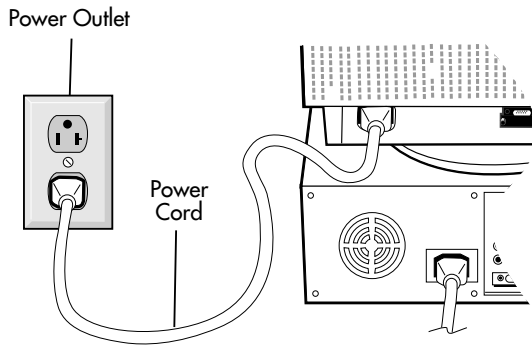

Figure C.1
4. Connect one end of the power cord to the MultiSync E900 monitor and the other end to the power outlet (Figure C.1).